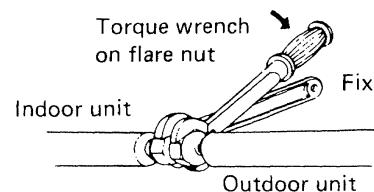

Fig. 27
2. Flare nut on large dia. tube should be torqued to 600 ~ 680 lbs. in. Flare nut small dia. tube should be torqued to 300 ~ 340 lbs. in. Fig. 27